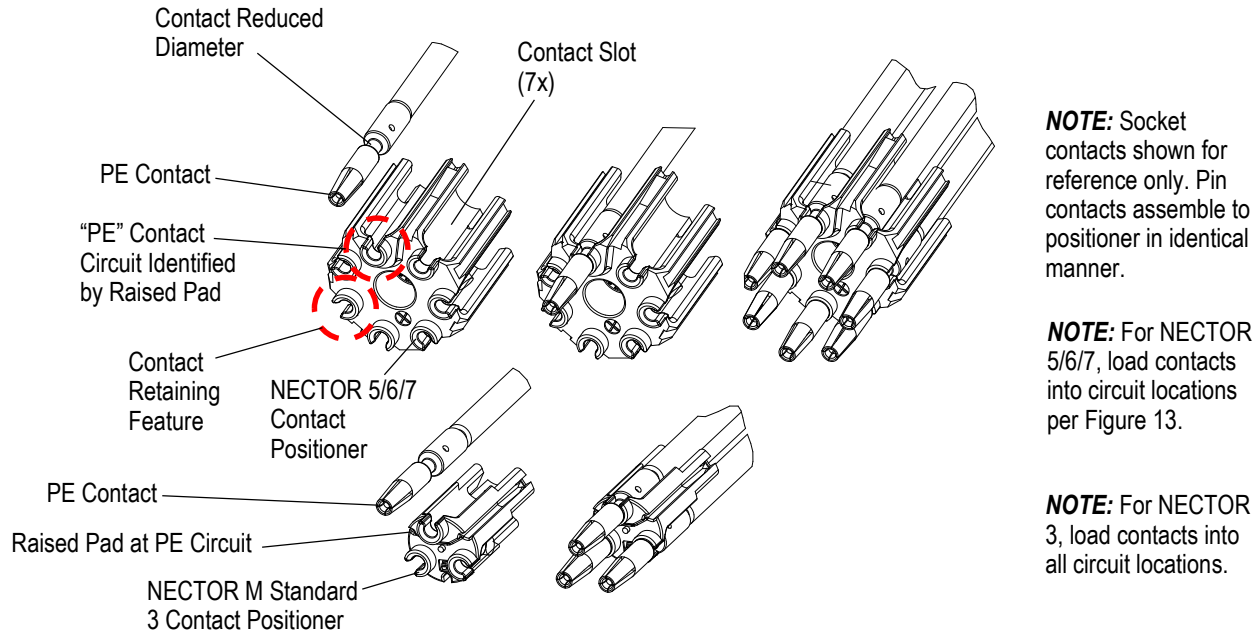

Figure 12
After crimping contacts onto the conductors (discrete/cable) the contacts are assembled to the plastic “positioner” component as shown in Figure 12.
1. Start with PE contact and identify corresponding PE “contact slot” on Positioner component (raised pad, Figures 12 & 13).
2. Place the contact crimp barrel in a “contact slot” in the positioner component. Orient the contact so the “reduced diameter” portion aligns with the “contact retaining feature” in the positioner (see Figure 12).
The PE contact slot is identified by a raised pad at the “contact retaining feature” (see Figures 12, 13). The raised pad causes the PE contact to be positioned 1mm ahead of the remaining contacts, and ensures the “make first/ break last” functionality of the PE contact. This PE circuit raised pad feature is on 3-contact positioners and 7-contact positioners.